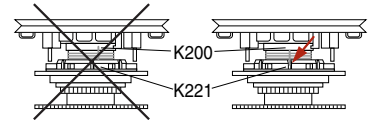

Fig. 17
- The pulley (K200, Fig. 17) must be inserted so that the spring is located in the opening of the slide disk.